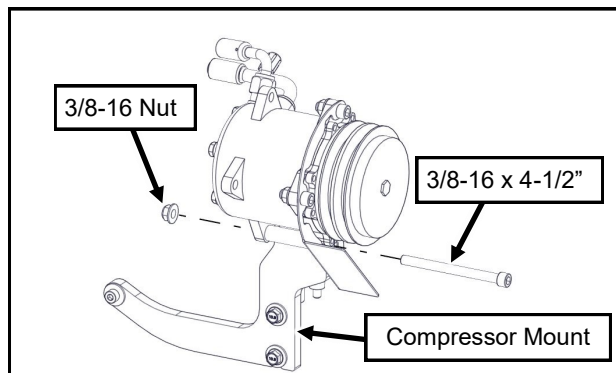

Fig. 2.11a (Install compressor)
2.11 To install the compressor, run hoses from the left to right side of the vehicle over the engine. Install the preassembled compressor to the compressor and tensioner mounts. See Figures 2.11a and 2.11b. Leave hardware loose.